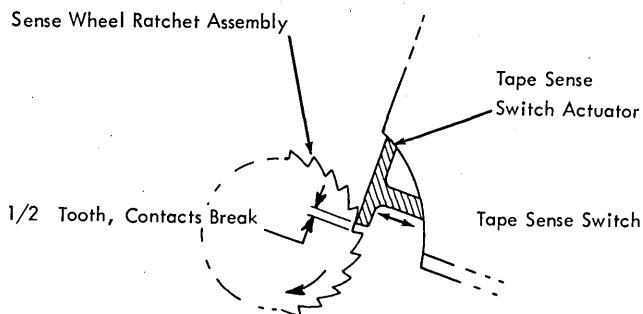

Figure 4-91. Tape Sense Switch Adjustment
4. Adjust the tape sense switch so that the contact opens when the actuator has risen approximately halfway up the slope of the sense-wheel ratchet tooth (Figure 4-91). Check the wire contacts and replace if necessary. The ratchet tooth-actuator relationship can be observed through a viewing hole in the switch assembly bracket. Use a meter to observe contact break accurately.